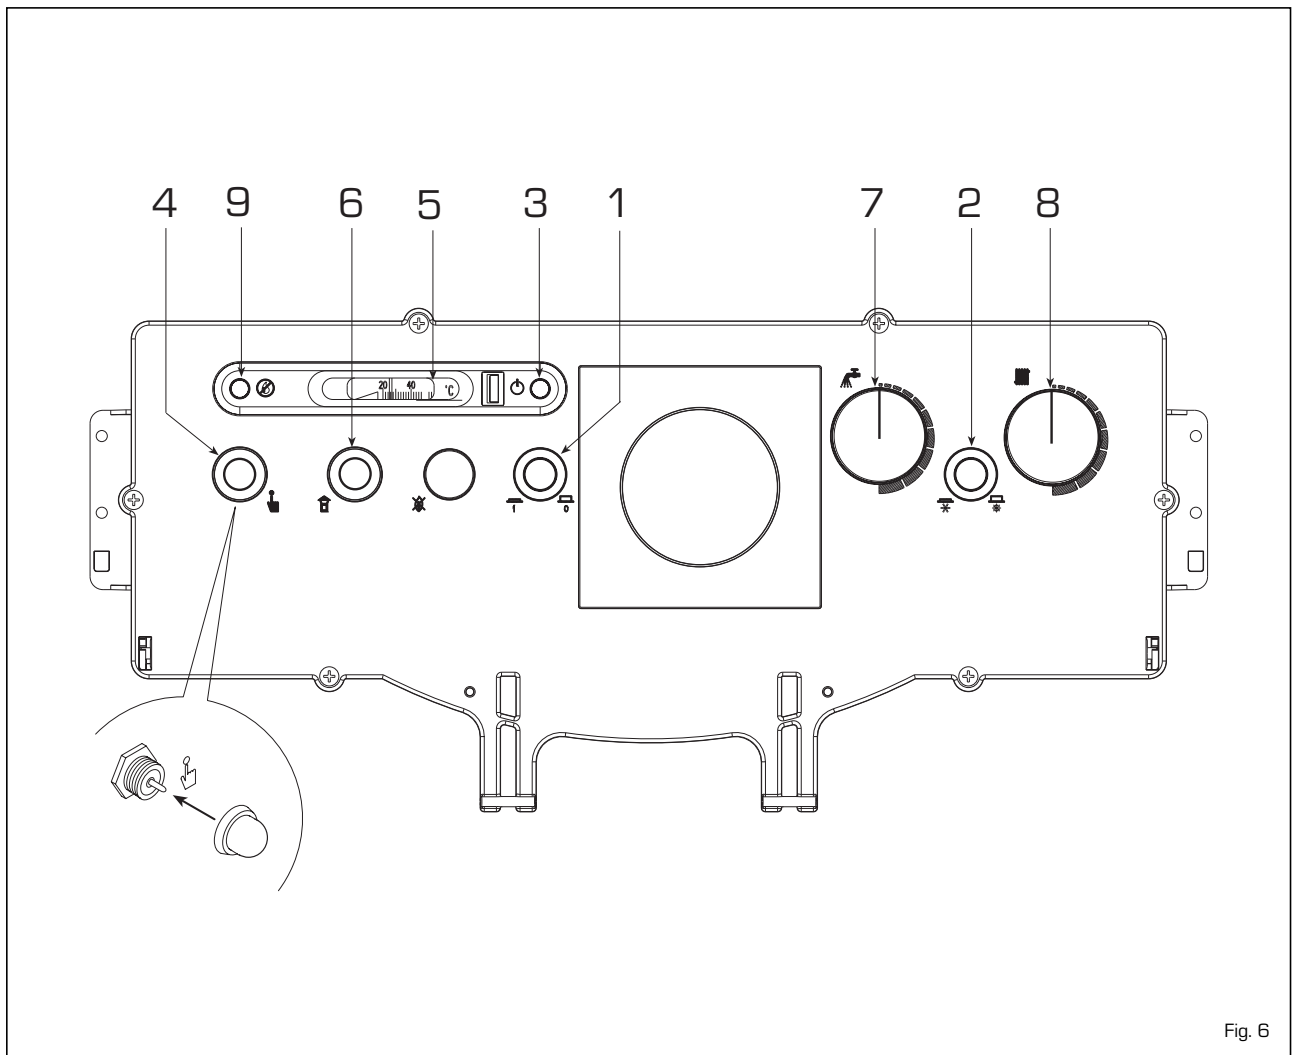

Fig. 6
3.2.1 Lighting the boiler (fig. 6)
3.2.2 Safety stat (fig. 6)
3.2.3 System filling (fig. 6)
3.2.4 Turning OFF boiler (fig. 6)